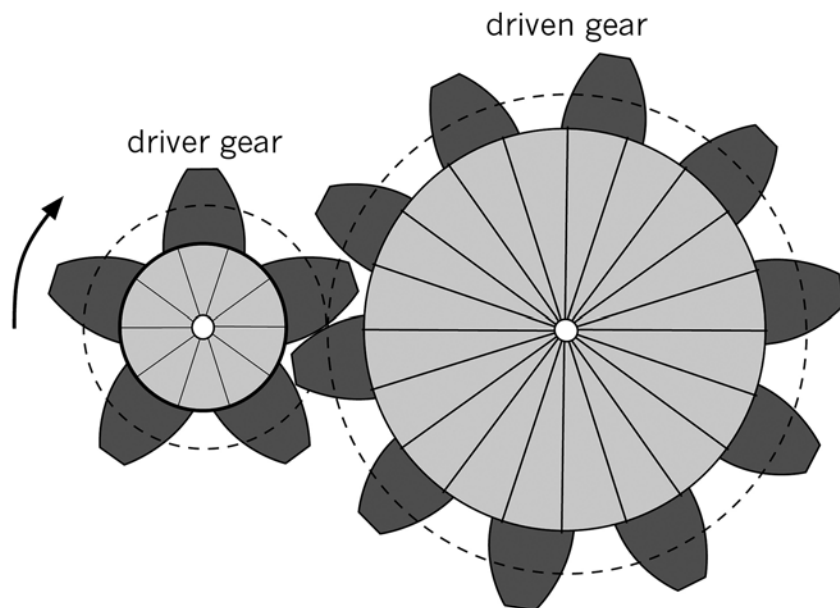

Figure 20
Look at the two connected gears in Figure 20. Gears that have teeth like these are called spur gears. Now answer the questions that follow:
2. Count the numbers of teeth on the two gears in Figure 20. How many revolutions will the driver gear need to turn to make the driven gear turn once? Explain why this happens.